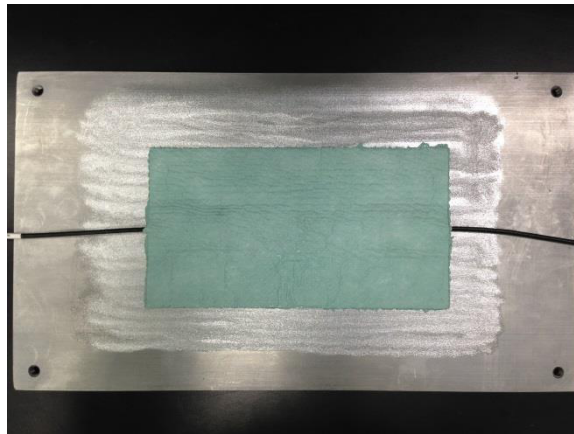

Figure 10 – STOPAQ EZ Patch
- Position STOPAQ over the gage and center as shown in Figure 10. Starting from the center and working toward the edges, gently press the STOPAQ in place, forcing out any air. Firmly press STOPAQ in place around the edges of gage.